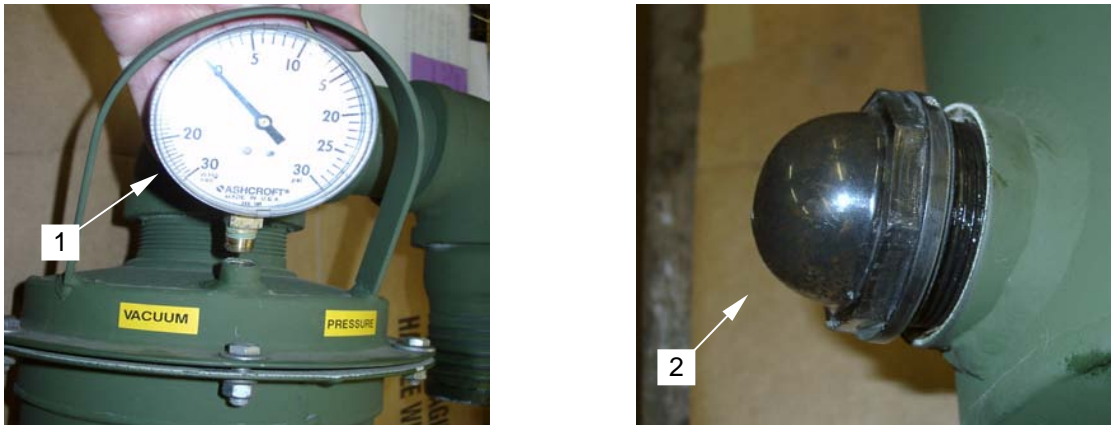

Figure 8. Installing Pressure Gage and Sight Glass
16. Install (thread) the vacuum/pressure gage (**figure 8, item 1**) into the moisture trap lid.
17. Install the sight glass (**figure 8, item 2**) on the moisture trap if necessary. (New replacement moisture trap is being furnished with sight glass installed.)